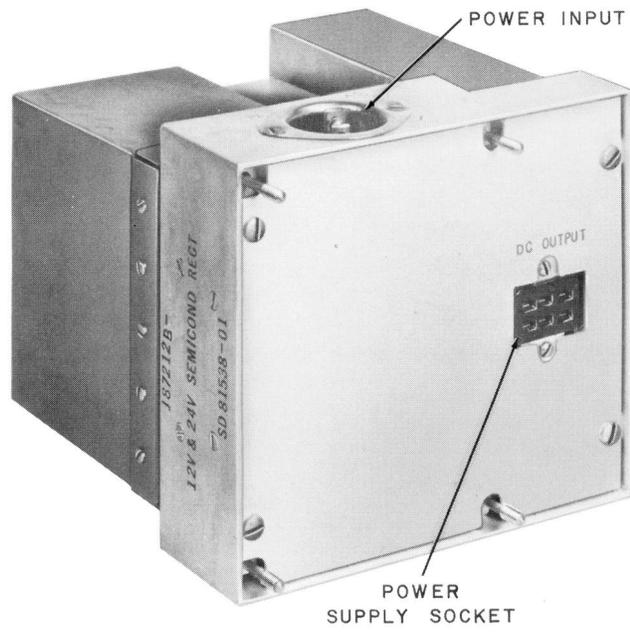

Fig. 2—Data Set 201B, Power Supply
- (a) Loosen the four retaining screws and remove the power supply from the data set chassis (Fig. 2).